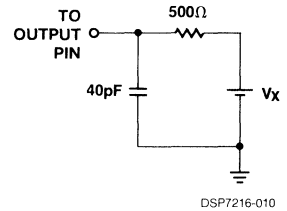

Figure 2. Output Three State Delay Load (V_x = 0V or 2.6V)
1. Transition is measured ±500mV from steady state with loading specified in Fig. 2.